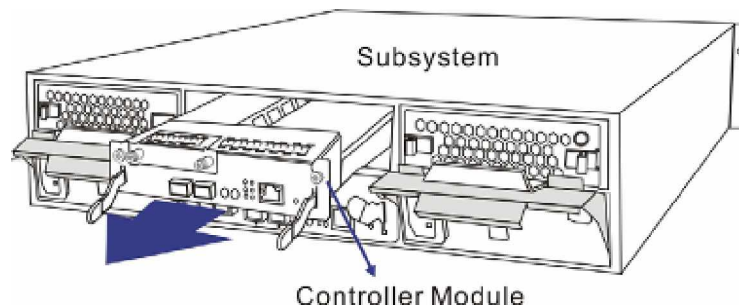

Figure 5-3: Removing the Controller Module
-  **Step 4. Gently pull the controller module** out of the subsystem. Place the controller module on a clean surface. (See **Figure 5-3**)